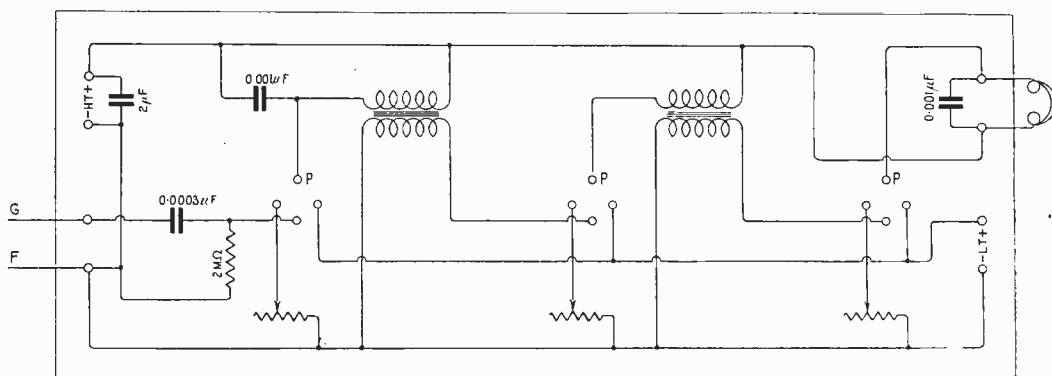

Fig. 4.
(1) The diagram submitted is not quite correct. The grid condenser should not be variable. The coils and condensers shown in the anode circuit do not serve any useful purpose. We suggest you rewire the receiver according to the diagram Fig. 4, page 678, February 17th issue, which shows the connections of one high frequency, one detector and one L.F. valves. We think the Post Office will permit you to use a circuit of this description. (2) The circuit will be quite useful for the reception of signals desired. (3) The method for adding H.F. or L.F. connected valves is given in practically all issues of this journal. (4) The proposed arrangement is quite suitable. A portion of the aerial coil may be coupled with a portion of the closed circuit coil.
The diagram is given in Fig. 4.